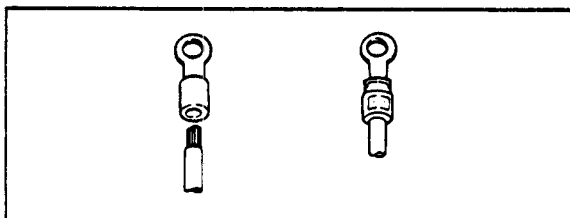

Figure 6-1. Solderless Lugs.
- (1) Turn the recorder POWER switch OFF, and remove the recorder rear cover.
- (2) Use the power cord supplied with the recorder for power supply wiring.
- (3) It is recommended that you use thermocouple wires to connect thermocouple inputs directly to recorder terminals. However, where the distance between thermocouples and the recorder is long, compensation leadwires are typically used.
- (4) It is recommended that solderless crimp-on lugs (for 4 mm screws) with insulation sleeves be used for leadwire ends (see Figure 6-1).